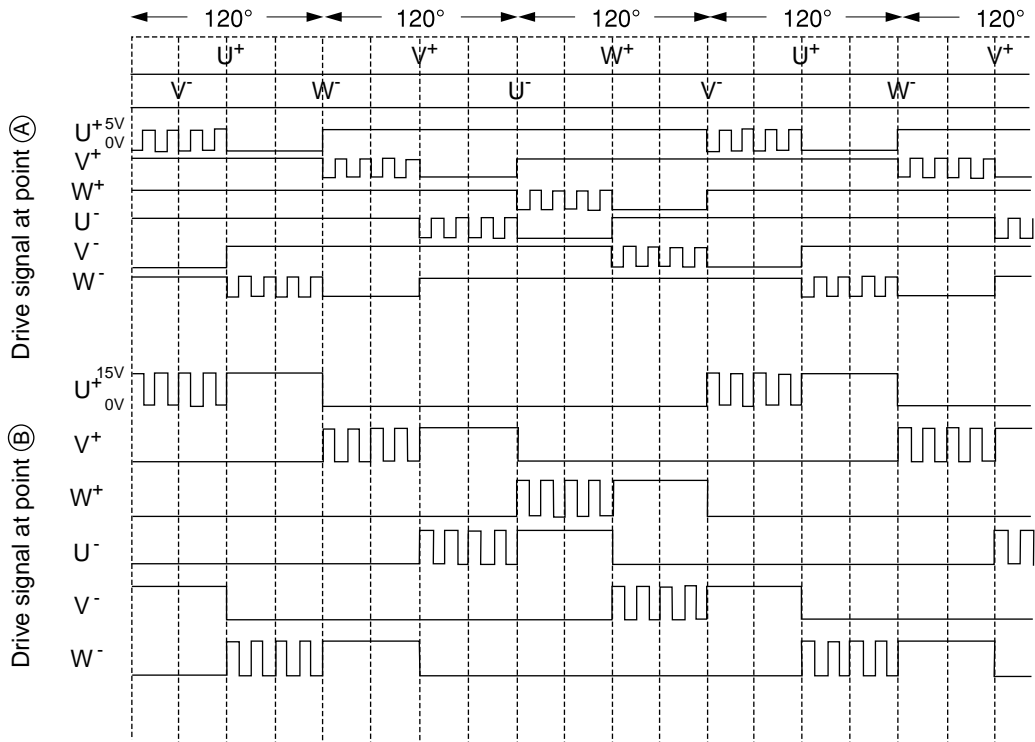

Fig. 7-2
- In low speed rotation mode (PWM range), as shown in Fig. 7-2, 0-5V chopper signal is output from microcomputer for each phase. Signal output from microcomputer is output to IC1 and is inverted by active Lo to become 0-15V chopper signal; it is then drive the transistor of each phase.